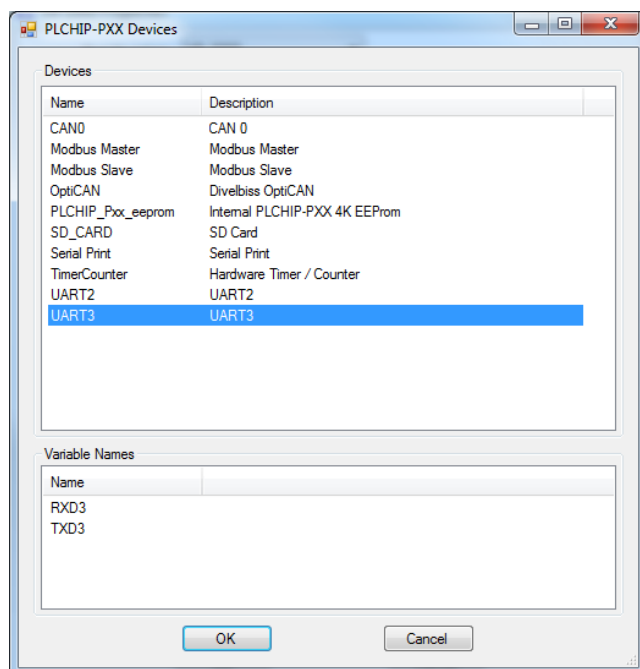

Figure 2-46 - Add UART3 Device
4. Locate **UART3** in the *Devices* pane. Click to select (highlight) UART3. Refer to Figure 2-46. Click **OK**. The *UART3 Properties* dialog will open.